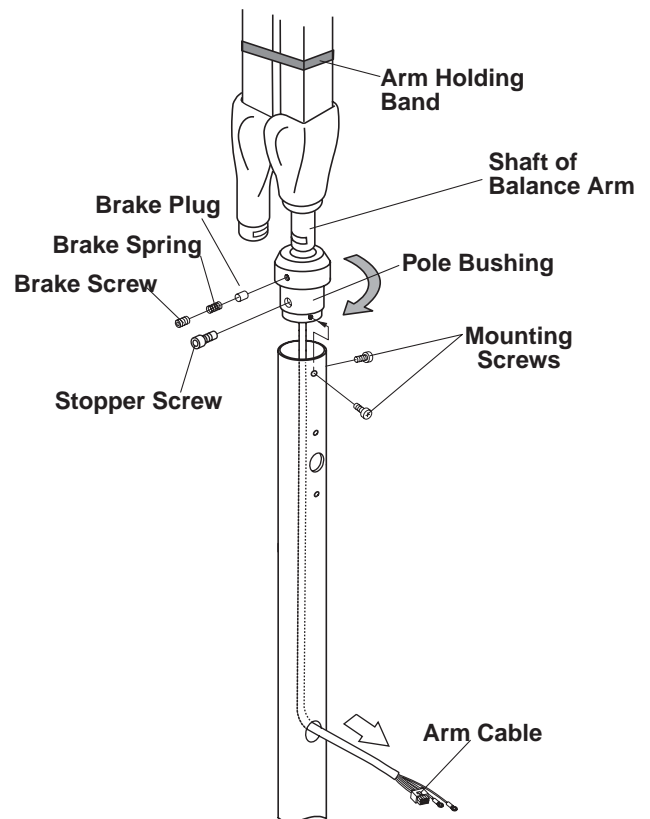
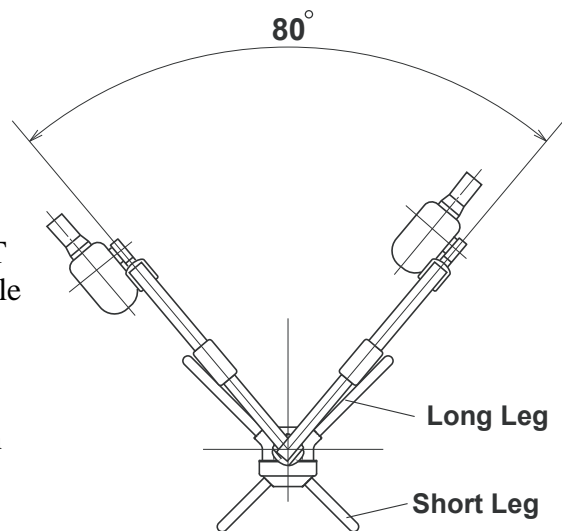

Fig.3-10 Arm Assembly Installation
Fig.3-12 Arm Swing Angle Adjustment
B. ARM ASSEMBLY INSTALLATION (Fig.3-10)
1. Keeping the arm at the position (a) of **Fig.3-12**, rotate the pole bushing to the limit by the direction as the arrow in **Fig.3-10** indicates.
3. Confirm the swing angle of the arm is as **Fig.3-12**.